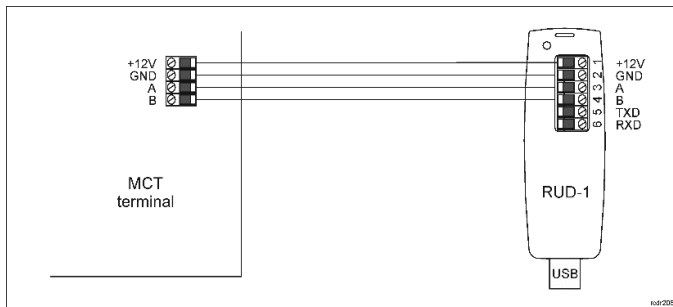

Fig. 1 Connection of MCT terminal to RUD-1 interface
1. Connect the device to RUD-1 interface (fig. 1) and connect the RUD-1 to computer's USB port.